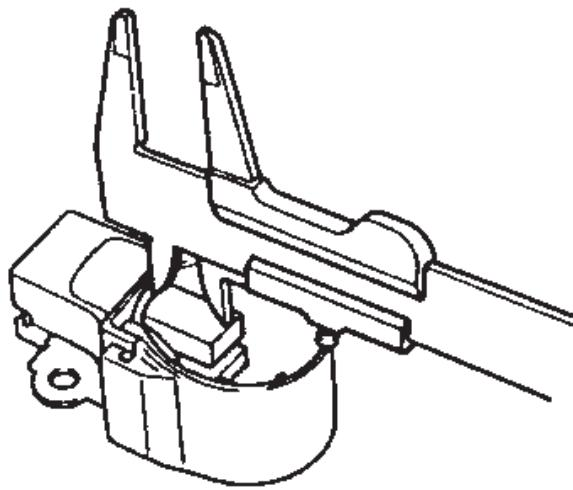

Figure 11-24
1. Check the exposed brush length using calipers (**Figure 11-24**). If the measured length is below the specified minimum, replace the brush holder.